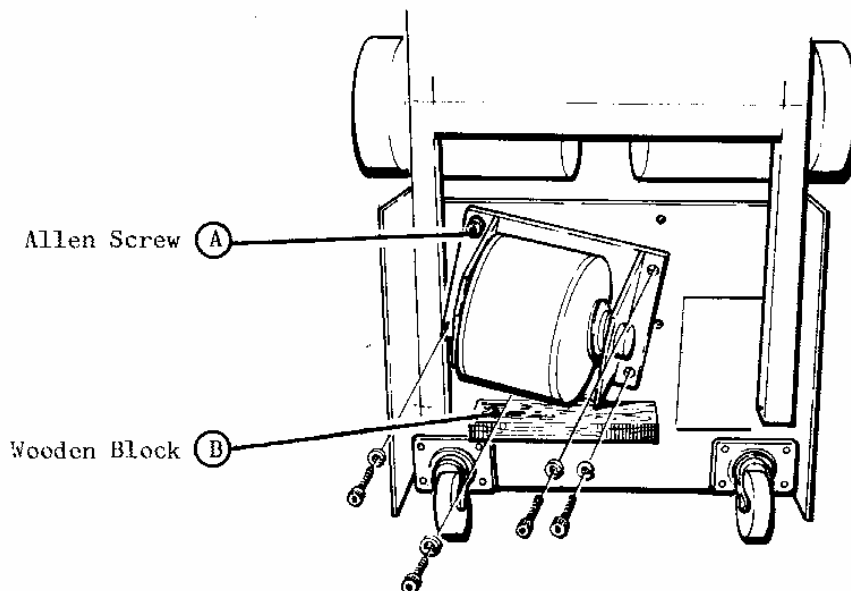

Fig 62 Underside of Mobile Base Showing Counterbalance Unit.
Disconnect and remove the control unit. Lift up the other part of the base so that the underneath of the base is visible as in Fig 62.
Place a block of wood on which the counterbalance unit can rest as shown at (B) in Fig 62.